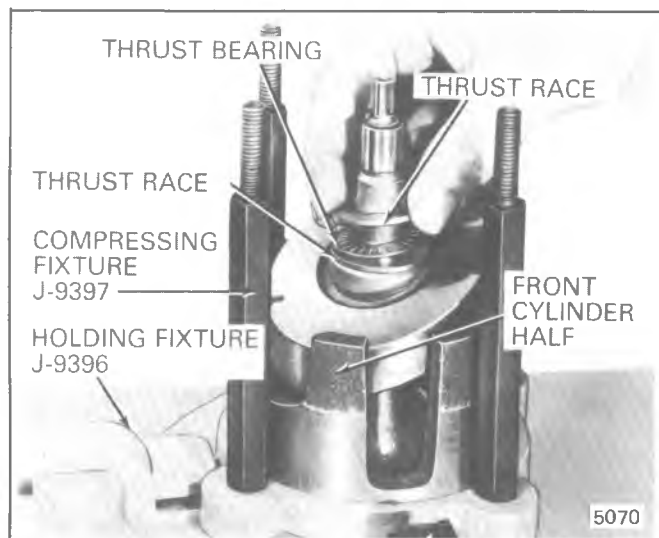

Fig. 1D-41 Installing A-6 Rear Thrust Races and Bearings
5. Now install a **ZERO THRUST RACE ON REAR END** of compressor axial shaft (Fig. 1D-41), so that it rests on hub of axial plate. Then add one thrust bearing and a **SECOND ZERO THRUST RACE** onto shaft. Lubricate races and bearing with petrolatum.